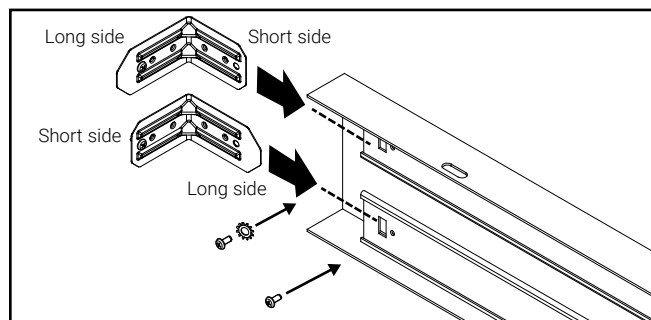

Figure 1.
3. Insert **short bracket side** into top slot of SMK panel B. Insert **long bracket side** into bottom slot of SMK panel B (Figure 1). Secure with fasteners. Lock washer should be first installed on panel B. **Repeat** process on access panel A.